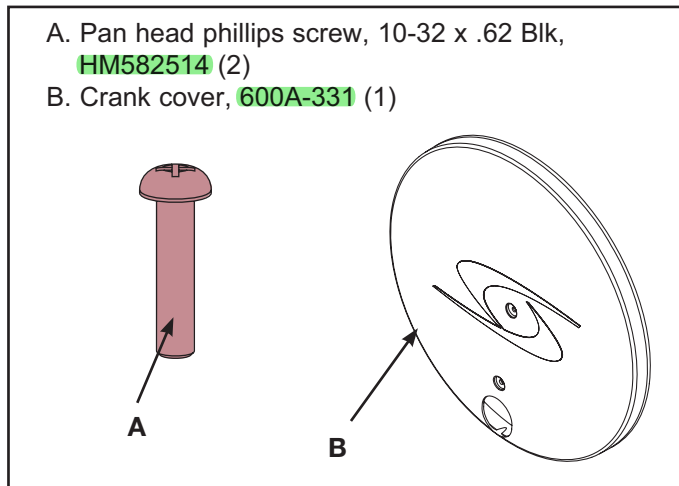

Figure 1
2. **Verify kit contents. See Figure 1**